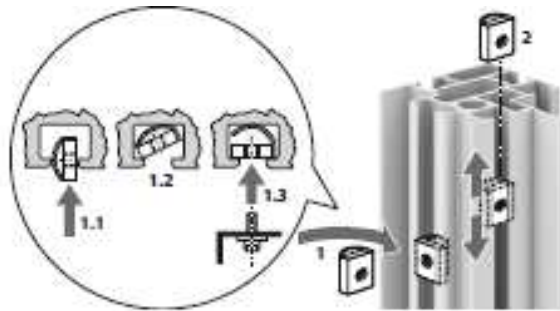

Fig. 10 Inserting the spring nuts
- 3 After that, insert the spring nuts into the groove of the rack aluminium profile in to previously marked position (Fig. 10).